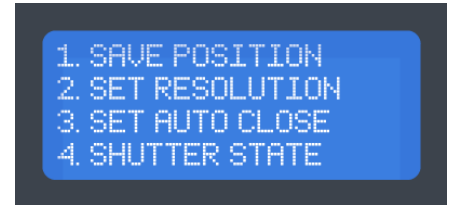

Fig. 14
3. Press the "DECREASE STEP / MENU DOWN" () button once to navigate to the "2. SET RESOLUTION" setting submenu (Fig. 14).